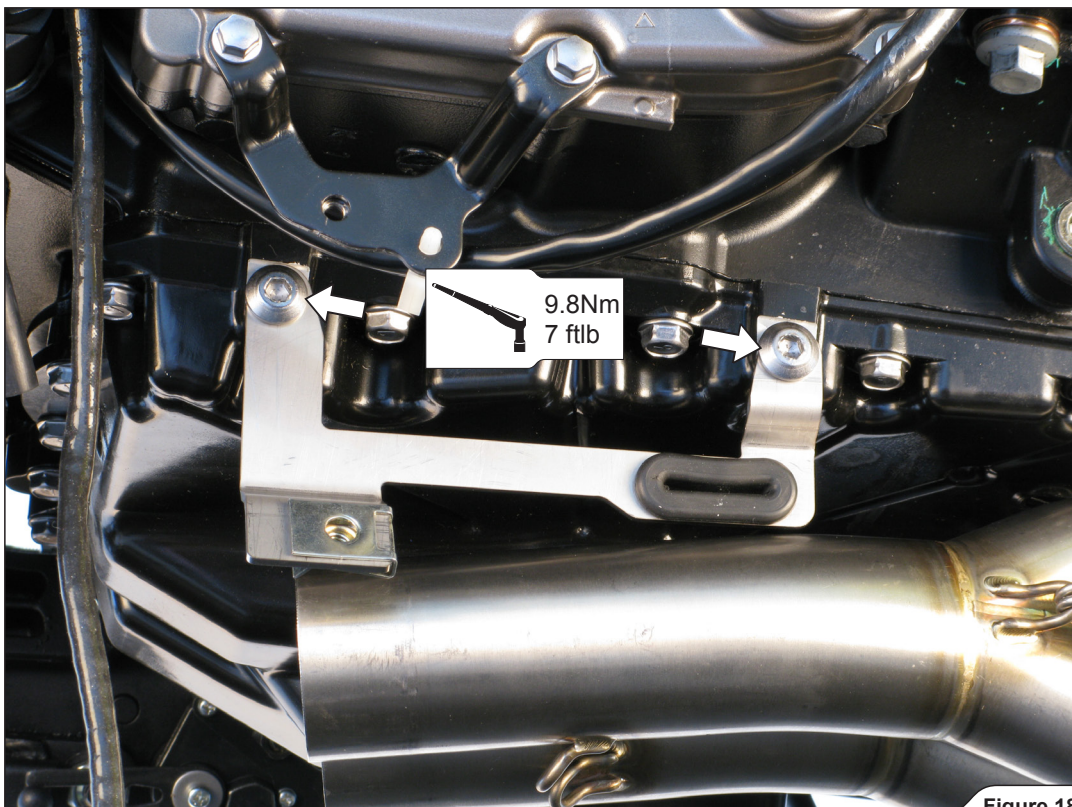

Figure 18
4. **For Z1000 model only:** install the bracket onto the engine, using stock bolts (**Figure 18**).